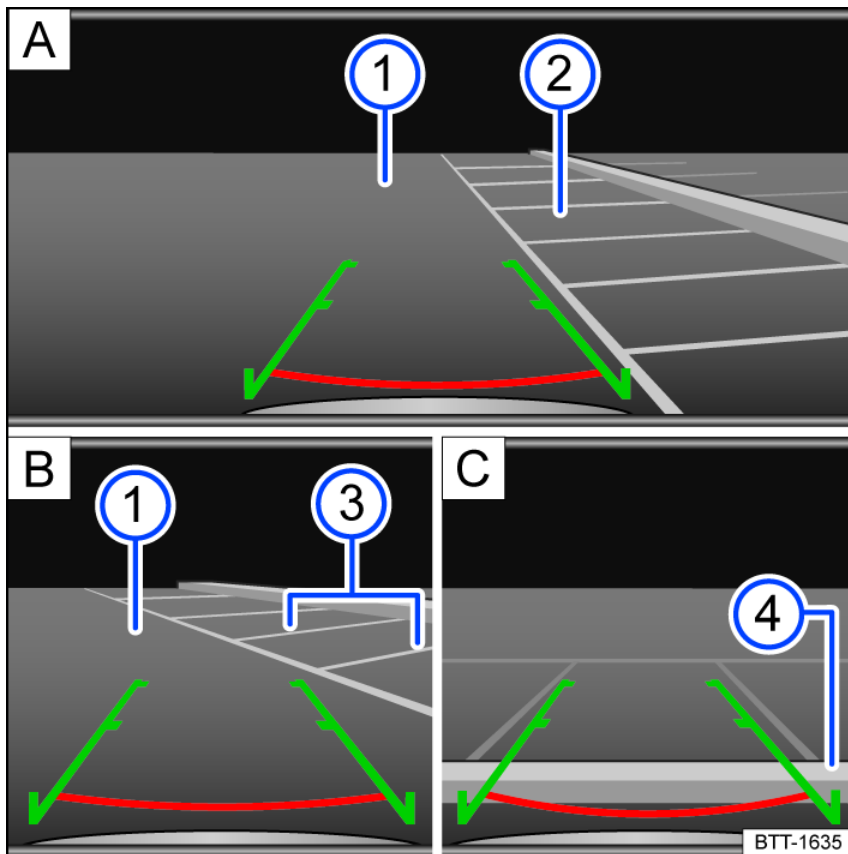

Fig. 137 Infotainment system: Parking with the Rear View Camera system.
- Position your vehicle in front of the parking space *fig. 137 A* ②.
- Slowly reverse while steering so that the green side lines line up with the selected parking space. The green lines must line up with the side boundaries of your parking space *fig. 137 B* ③.
- Stop when the red horizontal line reaches the rear boundary *fig. 137 C* ④.